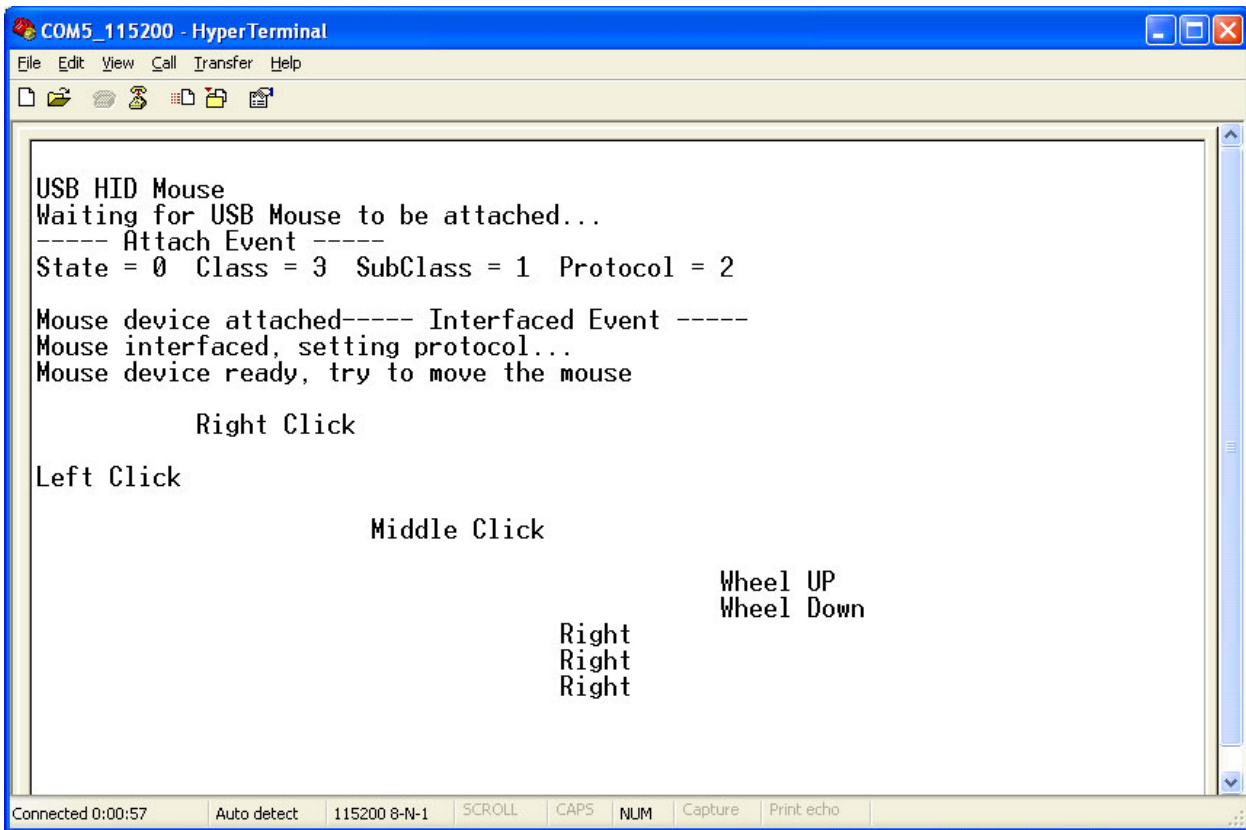

Figure B-4. Events from mouse
4. When events are implemented (click right mouse, click left mouse ...), they are registered as shown in Figure B-4: